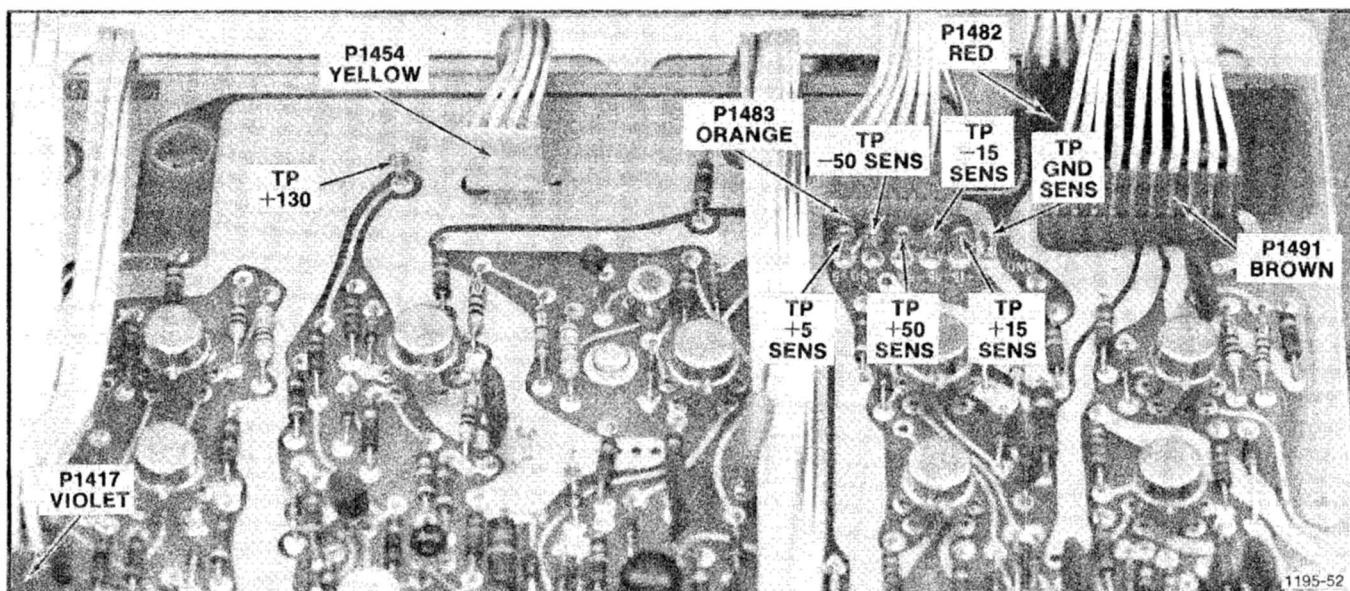

Fig. 4-3. Location of power-supply test points on Regulator board.
Incorrect operation of all circuits often indicates trouble in the power supply. Check first for correct voltage of the individual supplies. However, a defective component elsewhere in the instrument can appear as a power-supply trouble and may also affect the operation of other circuits. Table 4-1 lists the tolerance of the power supplies in this instrument. These voltages are measured between the power-supply test points (on Regulator board) and the GND SENS test point on this board. See Fig. 4-3 for power-supply test point location. If a power-supply voltage is within the listed tolerance, the supply can be assumed to be working correctly. If outside the tolerance, the supply may be misadjusted or operating incorrectly. Use the procedure given in the Performance Check and Adjustment section to adjust the power supplies.
4. Check the resistance of the power supplies at the test points given in Table 4-3 (see Fig. 4-3 for the location of these test points).
5. If any of the resistance readings are significantly lower than that listed, remove the electrical connections between the mainframe and the power-supply unit. Disconnect P1417, P1482, P1483 on the LV Regulator board (see Fig. 4-3). This isolates the circuitry in the mainframe from the power-supply unit. Recheck the resistance. If the readings remain low, the malfunction is located within the mainframe circuits. If the readings increase to normal or above, the malfunction is in the power supplies.